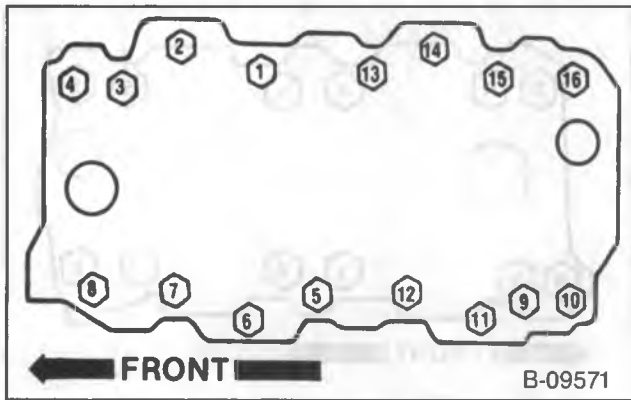

Figure 77—Intake Manifold Bolt Tightening Sequence (7.4L Engines)
- Bolts (20) to 40 N·m (30 ft. lbs.). Use the tightening sequence shown in figure 77.